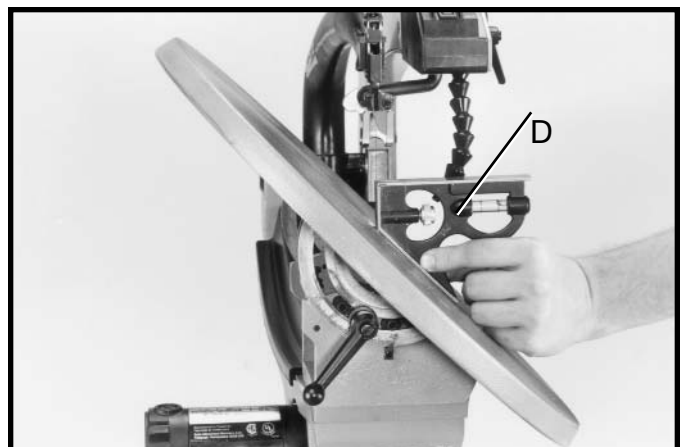

Fig. 31
4. Tilt table all the way to the right, as shown in Fig. 31, and tighten table lock handle.
5. Using a square (D) Fig. 31, check to see if the table is 45 degrees to the saw blade, as shown.